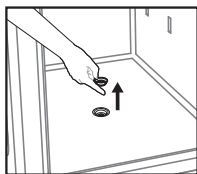

Figure 1
3. Lift the Mounting Hole Cap out of the safe and set aside (Figure 1).